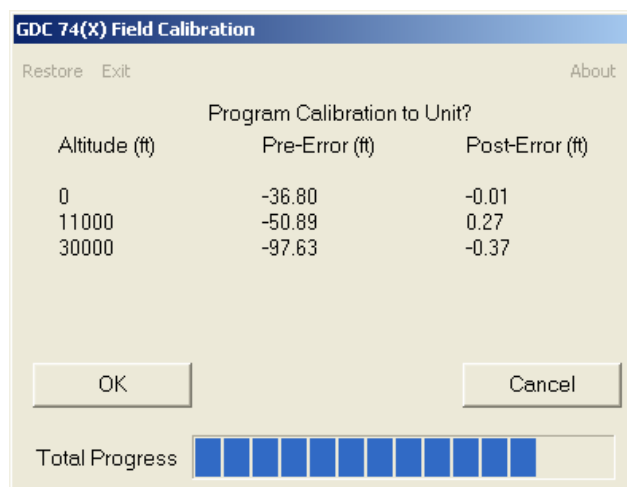

Figure 5-15. Program Calibration to Unit Screen
23. After the altitude calibrations are complete, the 'Program Calibration to Unit?' screen (Figure 5-15) appears. Click 'OK' to program the new calibration to the GDC 74(X) unit.